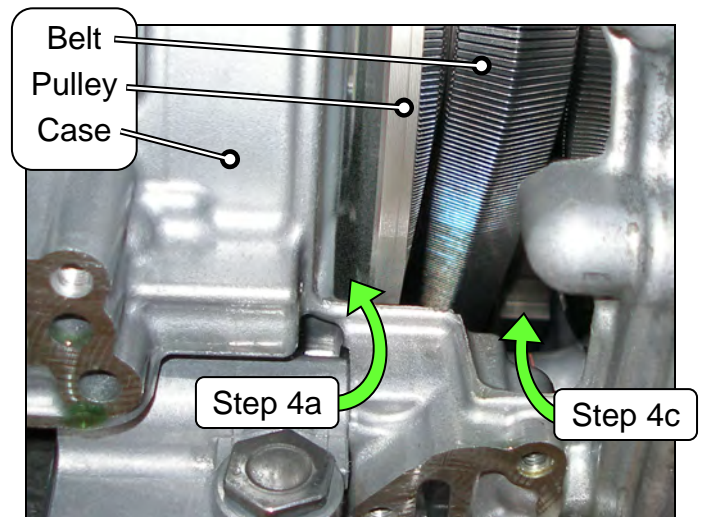

Figure 3
- a. Insert the camera lens between the CVT case and pulley where shown in Figures 3 and 4.
- Insert the lens approximately seven (7) inches, and then view the side of the belt that contacts the pulley.
- Insert the the camera lens in the second location where shown in Figure 3 and 6, and then perform step 4b again.